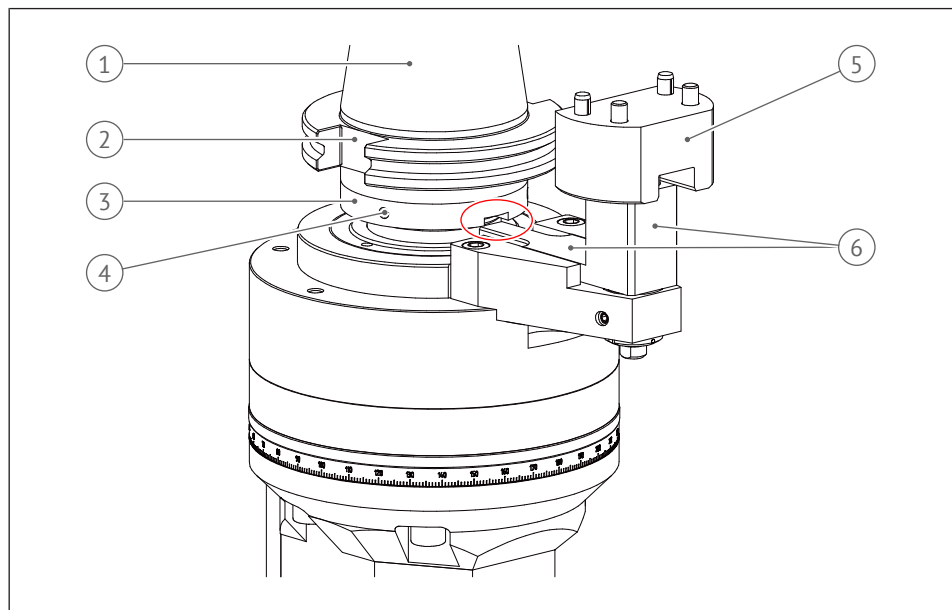

Fig. 9: Installing the product – locking ring, torque arm, stop block
2. Align the locking ring according to the red marking in Figure 9 so that the groove engages with the torque arm.
4. For the next step, hold the locking ring on the product in position with one hand. Once the torque arm engages in the groove of the stop block, the locking ring will be prevented from rotating when the torque arm disengages from the groove of the locking ring (see red marking in Figure 9).